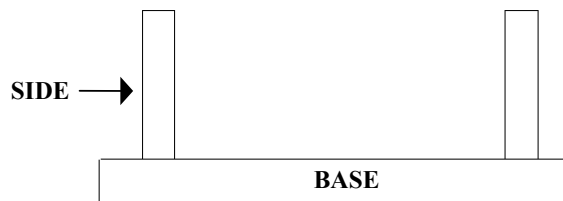

Fig.7
25. Fig. 7 shows a vertical section through a mould box for a small pre-cast concrete lintel. Complete the drawing to illustrate a method used to prevent the sides from spreading when it is filled with concrete.